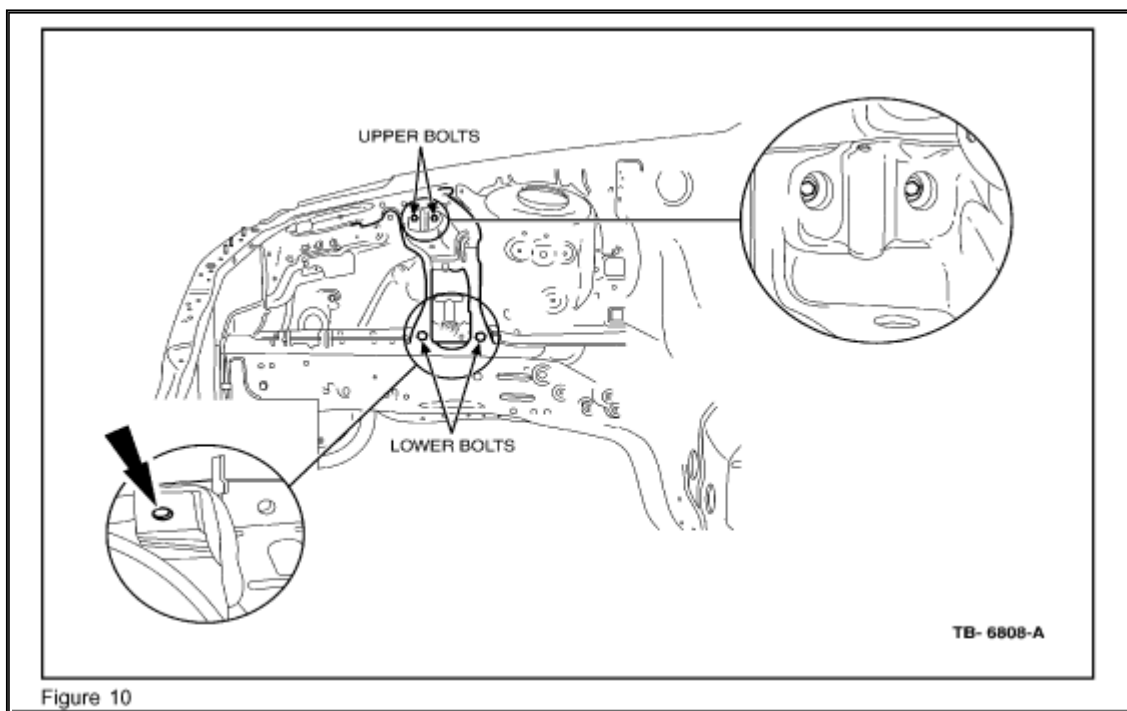

Figure 10
17. Vehicles built prior to 6/15/02, remove the # 3 Engine Mount bracket and replace with a new bracket (254Z-6028-AA) (Figure 10). Torque the retaining